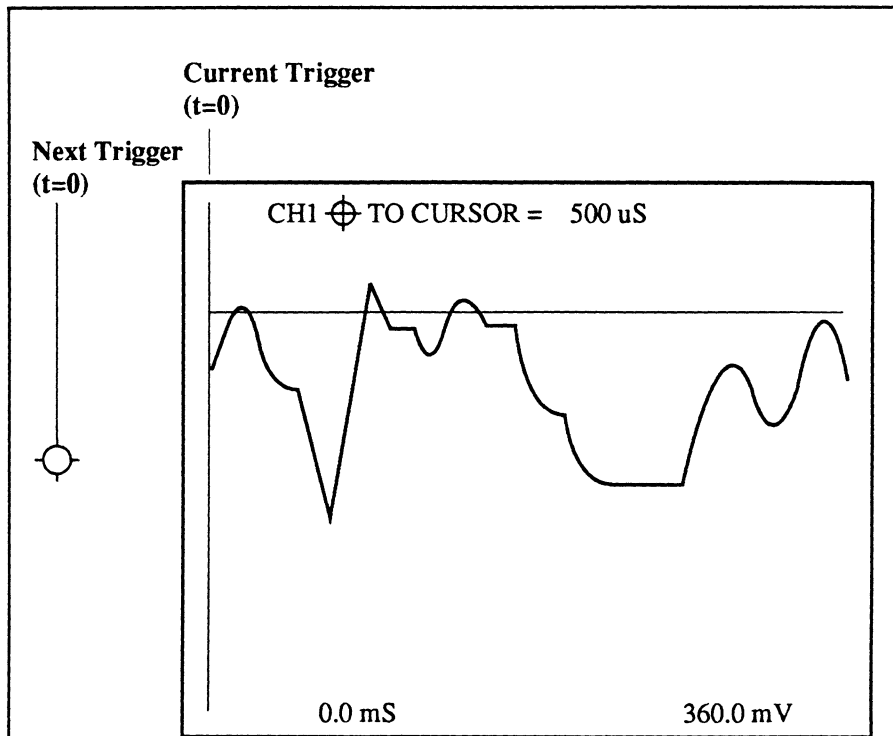

Figure 3 - The left side of the Horiz Trigger Position button was pressed and held in until 500 μ S was reached in the field at the top of the screen.
3. Press the left side of the Horiz Trigger Position button until the desired amount of delay appears at the top of the screen (Figure 3).